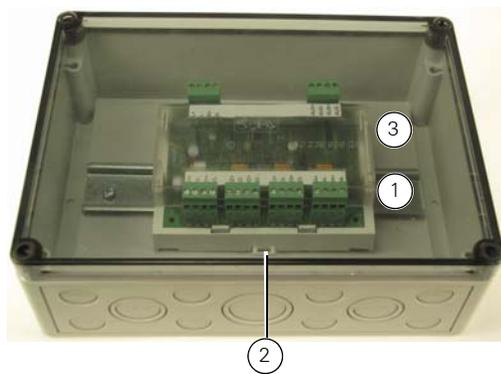

Fig. 2: QMO850 Module fitted in the optional IP66 rated enclosure
A suitable enclosure can be ordered under part number 557.201.410. This is rated to IP66, and supplied complete with a mounting plate (Item 3 in Figure 2) and a piece of DIN rail.
Snap the QMO850 module onto the DIN rail with the release clip protruding. The complete assembly is as shown in Figure 2.
If you need to remove the module from the rail, pull the DIN rail release clip (see item 2 in Figure 2).